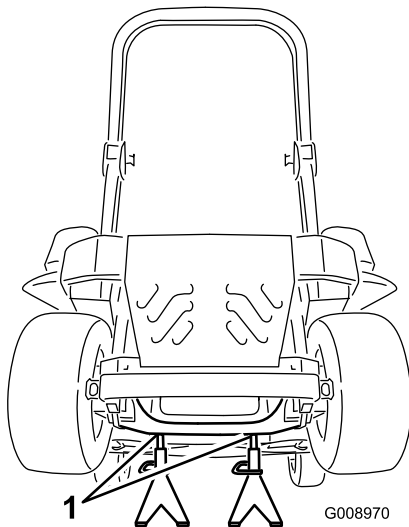

Figure 85
3. Raise the machine and support it with jack stands (Figure 85).
9. Remove the jack stands and lower the machine (Figure 85).